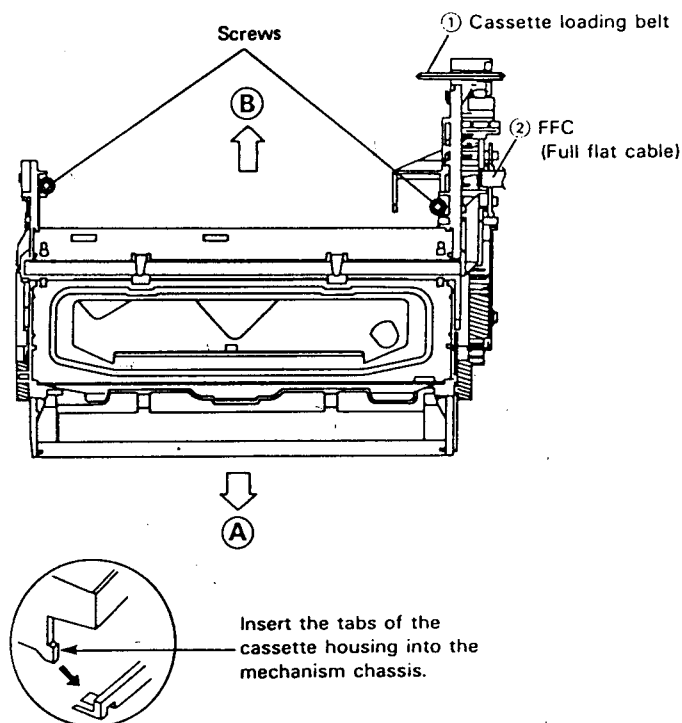

Figure 1-1.
5. Move the cassette housing control assembly (Fig. 1-1) in the direction of arrow → ③, and pull it out straight upward.